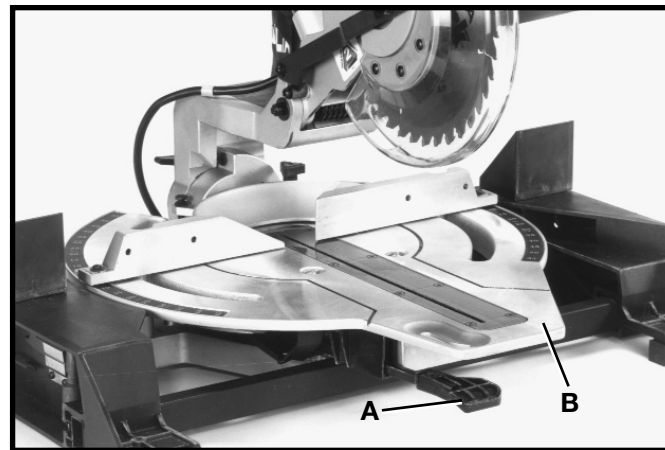

Fig. 23
2. Fig. 23, illustrates the table (B) locked in the straight 90 degree cut-off position. **NOTE:** Table locking lever (A) must be compressed when rotating table. When releasing lever (A) Fig. 23, the table is in the locked position.